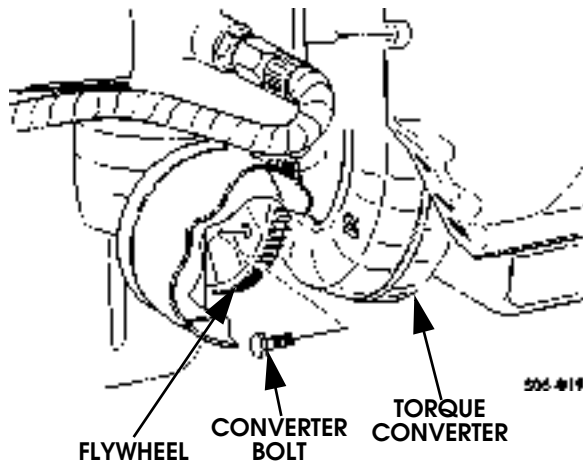

Figure 2-57: Converter Bolt Removal/Installation
- Remove torque converter attaching bolts Figure 2-57.